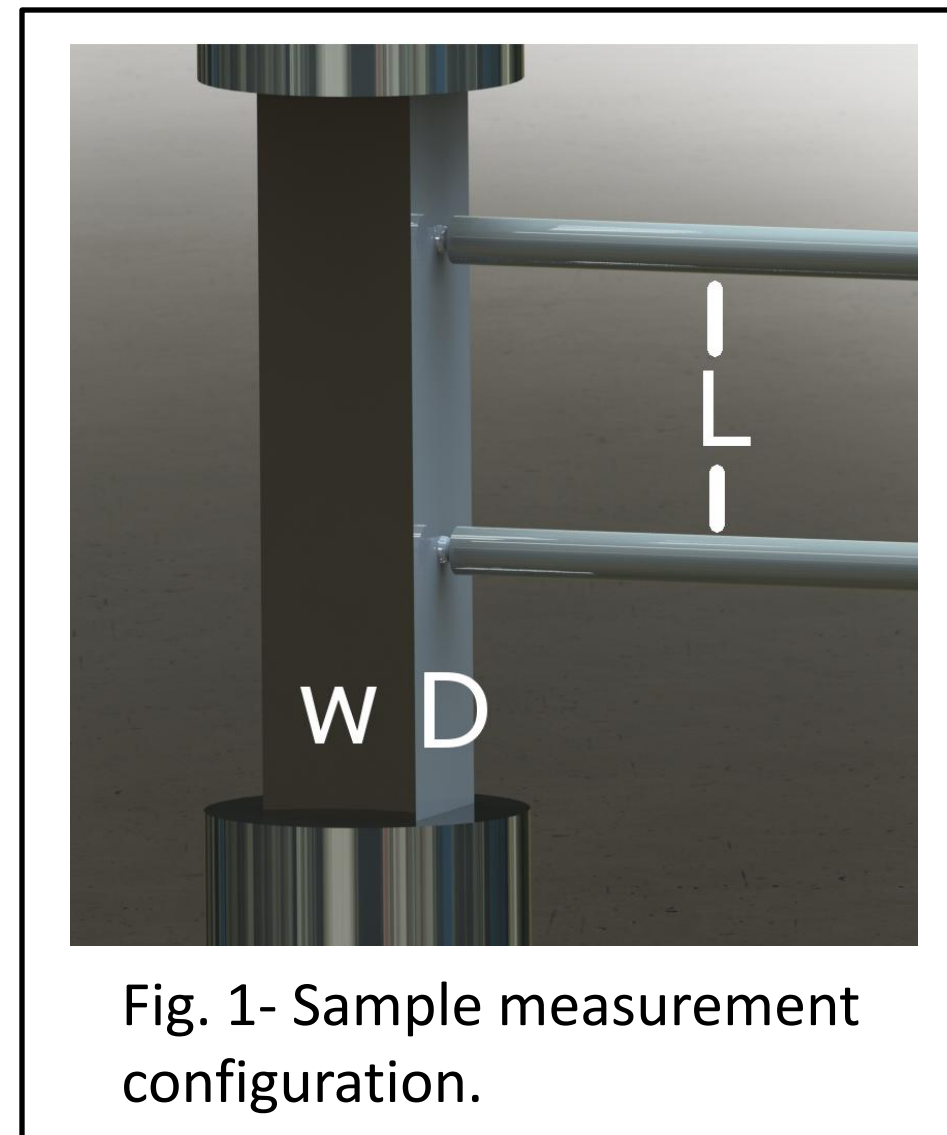

Fig. 1- Sample measurement configuration.
- Systems like the ZEM-3 measure Seebeck coefficient by a potentiometric (4-probe, see Fig. 1), differential method, using equilibrium or quasi-equilibrium measurements [1].
- The model (Fig. 1) was discretized using tetrahedral elements, a grid independence study demonstrated convergence.